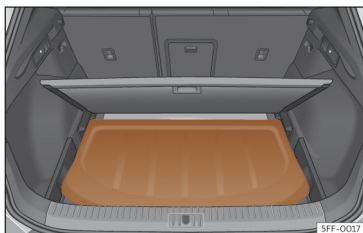

Fig. 188 In the boot: fitting the rear shelf.
- Place the rear shelf in the corresponding housing >>> **Fig. 188**.